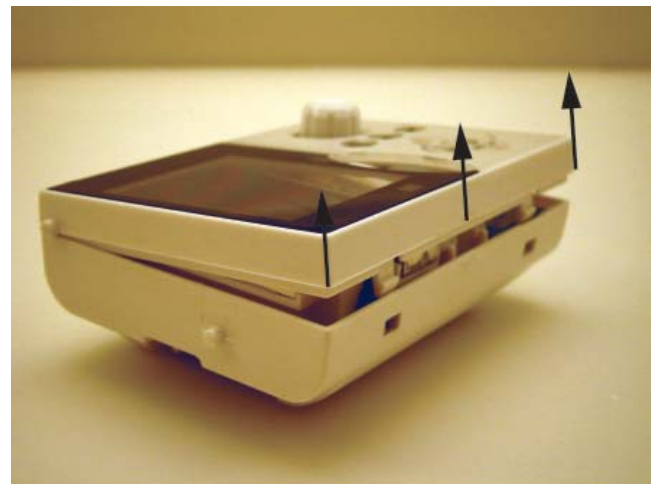

Figure 15
2. With both tabs released, carefully pull the **bottom** of the faceplate up and away from the keypad as shown in **Figure 15** until it stops moving freely. Carefully pull the top of the faceplate clear of the keypad to remove. Do not touch, pinch, poke or otherwise contact the flex board circuit connected to the top of the LCD. Damage to the flex board will disable the LCD.
5. With all keycaps in place, replace the faceplate in reverse process to step 2. Carefully align the top of the faceplate with the keypad body as they appear in **Figure 15**. Slowly press the bottom of the faceplate until the keycaps begin to push through their openings. Visually inspect the keycaps to confirm that they are properly centered in the faceplate openings. With the keycaps in place, press the bottom corners of the faceplate until it snaps into place.